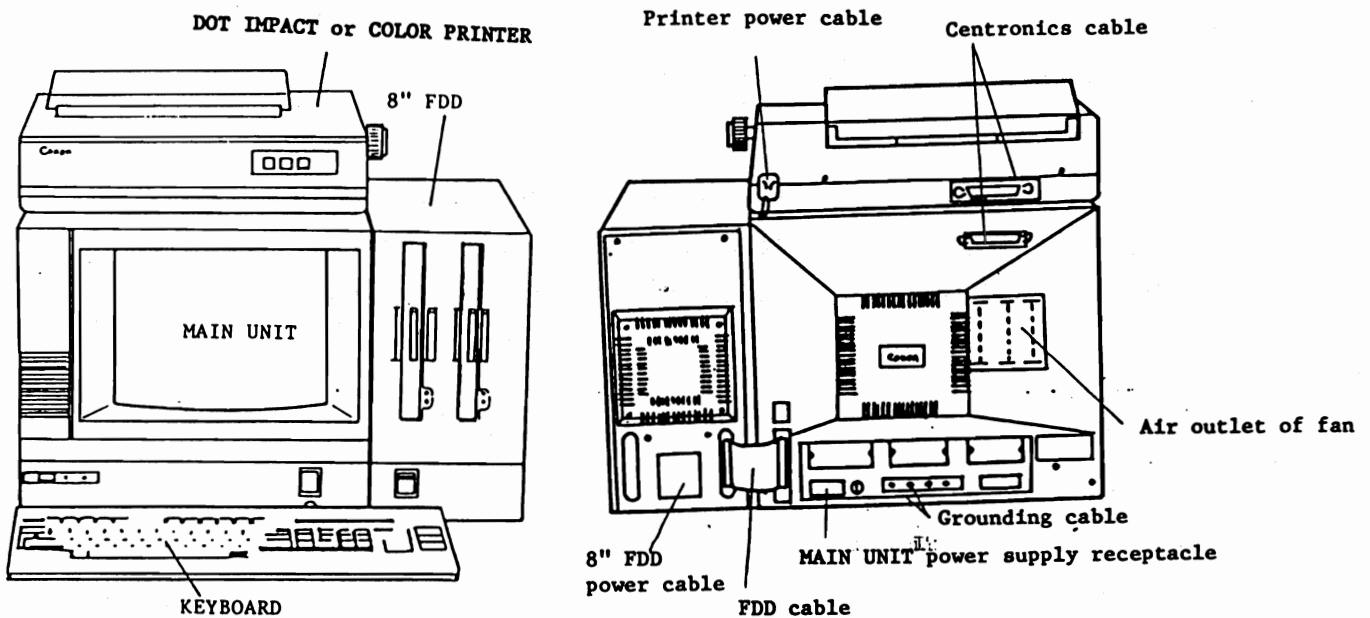

Fig. 4.2.21
- ① After unpacking, set power switch of MAIN UNIT and 8" FDD to OFF, confirm set positions of P.C.B switches in MAIN UNIT and 8" FDD-I/F P.C.B. See paragraph 4.2.3. Connect KEYBOARD cable, centronics cable, and 8" FDD cable to respective connectors of MAIN UNIT, as in Fig. 4.2.21.
- ② Clamp both centronics cable and 8" FDD cable with connector lock pins.
- ③ Connect main unit power supply cable and 8" FDD power supply cable to their corresponding receptacle.
- ④ After checking that printer power switch set to OFF, connect printer power supply cable to AC power receptacle.
- ⑤ Clamp printer grounding cable to the part below printer power supply cable. Then, lock it together with 8" FDD grounding cable with grounding cable retaining screw of MAIN UNIT.